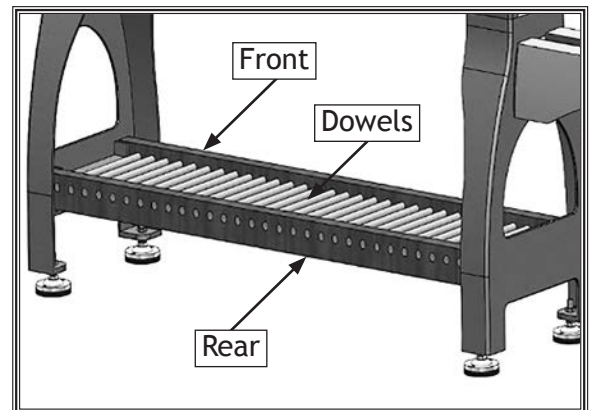

Figure 17. Boards and dowels installed in shelving option three.
2. In one 2x6, drill ⁵/₈" holes all the way through board. This board will be installed on rear of lathe (see **Figure 17**). On other 2x6, drill holes only deep enough to secure dowel rods. This board will be installed on front of lathe.